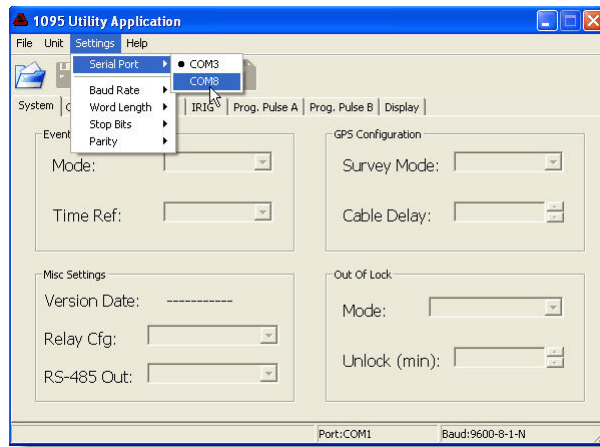

Figure 4.6: Connecting with the Model 1095A/C
3. Select Settings > Serial Port > COM#, choosing the correct COM port associated with your computer; see Figure 4.6.